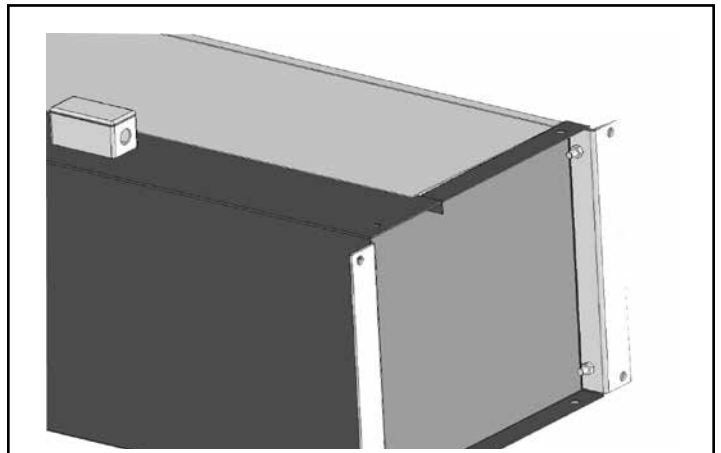

FIGURE 5 - Floor Mounting Brackets
- C. To vertically mount a VS and KS Series unit using optional Floor Mounting Brackets, bolt brackets on the inside of the end plate with (4) 1/2 - 13 bolts as shown in **Figure 5.**